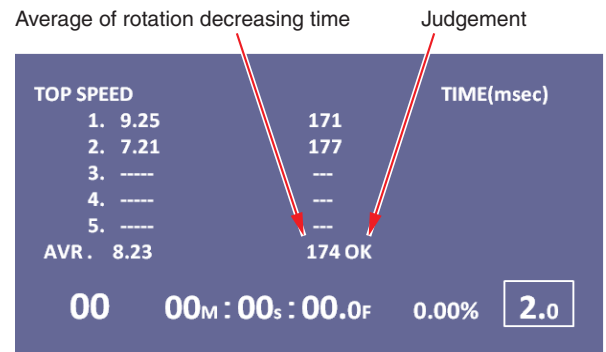

Fig. 2 (Example of displaying LCD)
- "TOP SPEED" and "TIME (msec)" are displayed in LCD display. (See Fig. 2)